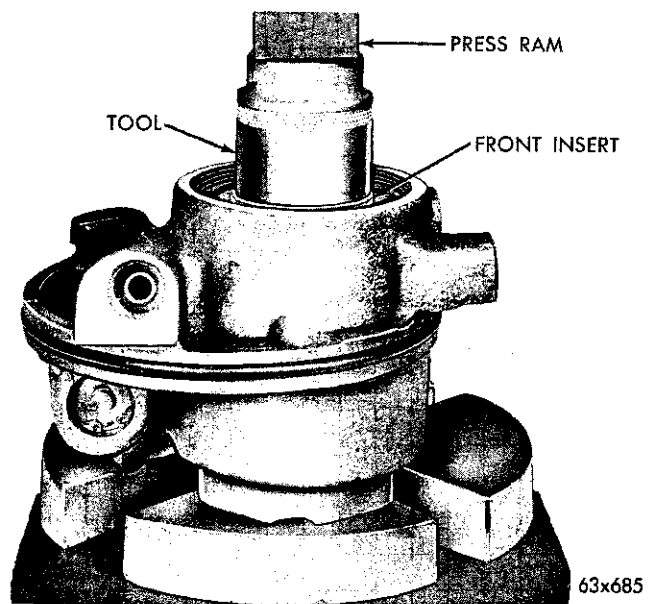

Fig. 20—Installing the Front Insert into the Pump Housing
(18) Remove the special flat washer tool. Make sure that the springs are in place by rotating the pump shaft and looking through the notch in each slipper.
(19) Lubricate the rotor and slippers with clean power steering fluid and rotate the shaft to make sure the slippers do not bind.
(20) Replace the shaft seal and "O" ring seal on the front insert. Lubricate the shaft seal, "O" ring and shaft with power steering fluid.
(21) After making sure the inner face on the front insert is smooth and free of burrs, place the insert assembly on the shaft with care so that the shaft seal is not damaged by the end of the shaft.
(22) Support the pump housing in an arbor press, align the center punch marks on the front insert and the pump body, and using a 1¼ inch socket with ½ inch drive, press the insert into the pump housing (Fig. 20).